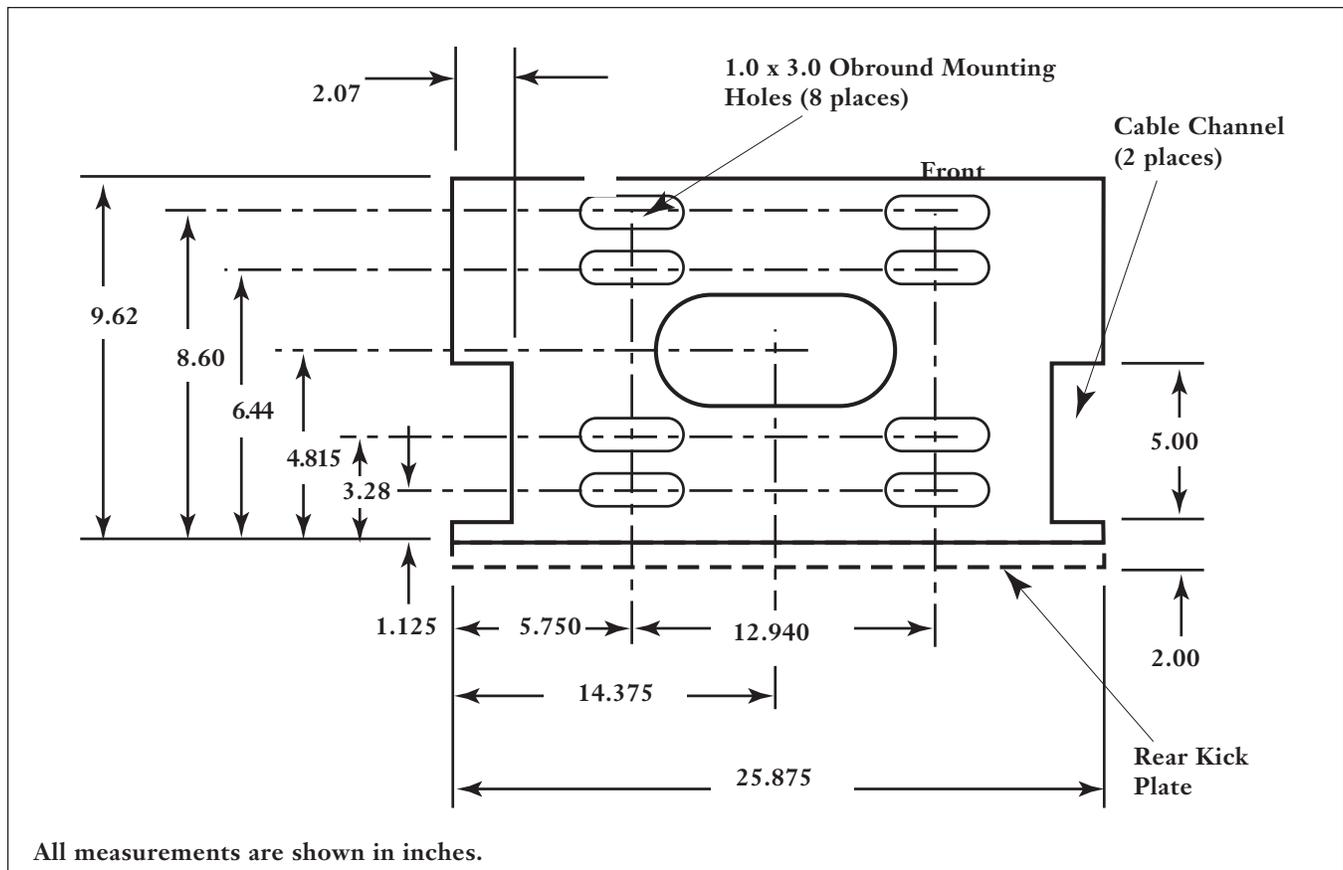

Figure 4
- 4.5 Bolt the unit to the floor using anchors and assembly hardware specified for the type of floor. See Figure 4 for hole locations.